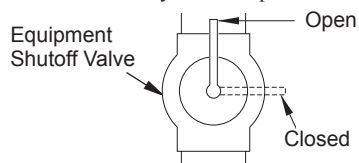

Figure 12 - Equipment Shutoff Valve
1. Close equipment shutoff valve (see Figure 12).
1. Open equipment shutoff valve (see Figure 12).